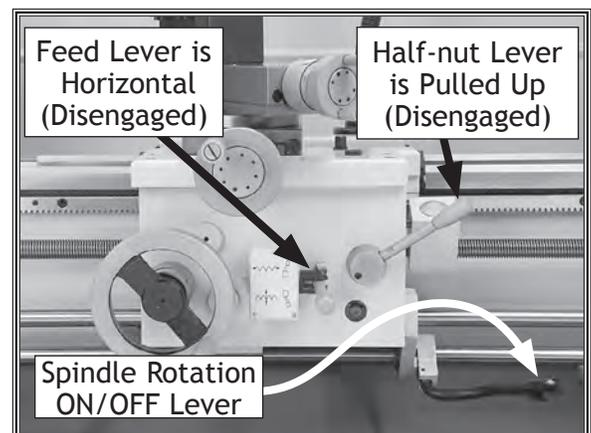

Figure 14. Apron controls.
3. Disengage the half-nut lever and the feed lever (**Figure 14**).
6. Make sure the spindle rotation ON/OFF lever is in the central or neutral position (Figure 14).
8. Push the POWER START button, then move the spindle rotation ON/OFF lever (Figure 14) down until the chuck turns. The top of the chuck should turn toward you.